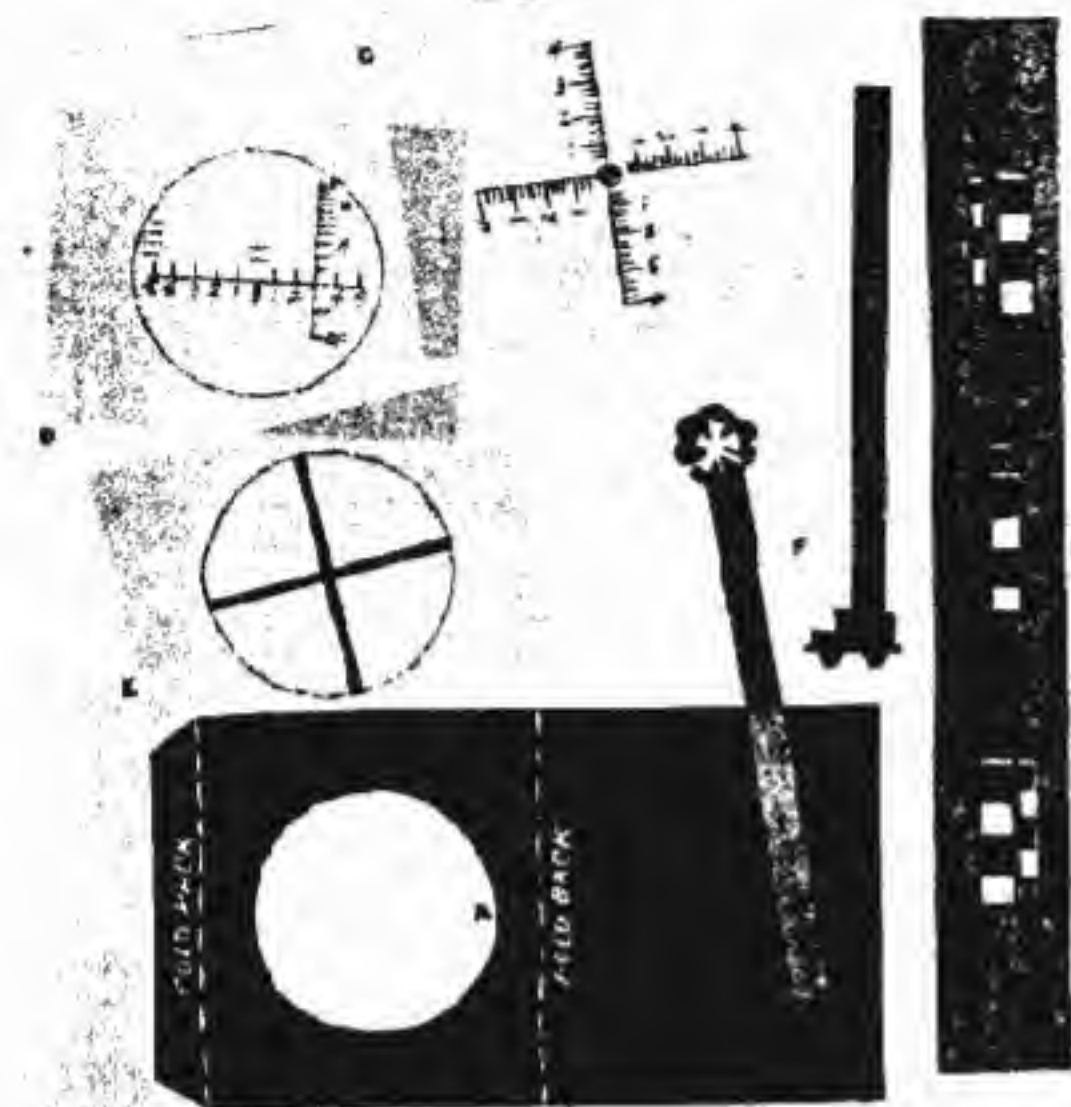

Figure 5
5. **MORTAR SIGHT PICTURE** (Figure 5) - Teaching new men correct sight pictures for mortar and/or Davy Crockett weapons or just teaching the proper use of the reticle found in military binoculars can be difficult. This training aid makes it easy. It can be produced from a manila folder and a scrap piece of frosted acetate. Once assembled, it is small enough to be carried around for immediate use anywhere. Follow these steps:
- Cut and fold the base (A) together.